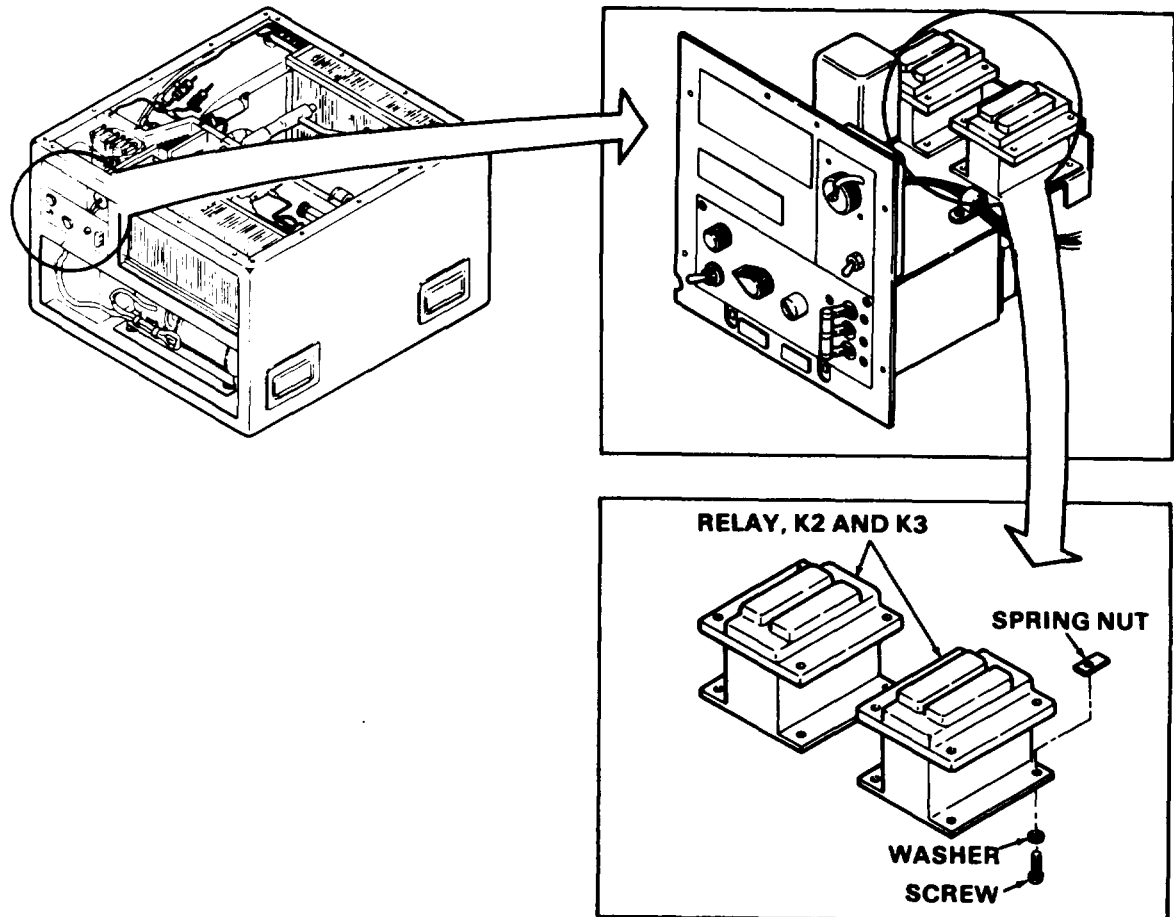

Figure 4-17. Compressor Relay
- (1) Refer to paragraph 4-29 and remove the junction box,
- (2) Refer to figure 4-17 and remove the compressor relay.
- (1) Refer to figure 4-17 and install the compressor relay.
- (2) Refer to paragraph 4-29 and install the junction box.
(1) Refer to figure 4-17 and install the transformer and resistor.
(2) Refer to paragraph 4-29 and install the junction box.